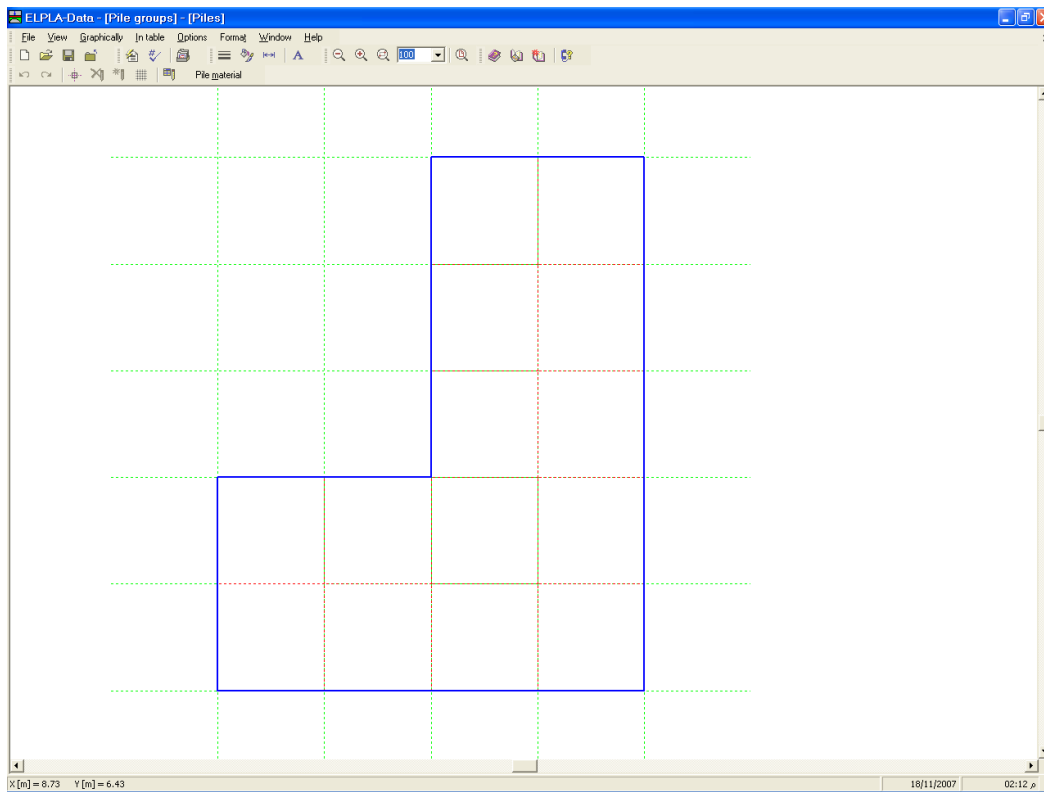
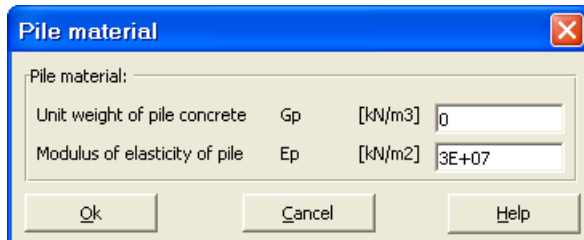

Figure 11-16 "Piles" embedded program
Figure 11-18 "Defining element groups" dialog box
To define piles, choose "Piles" command from "Data" menu of *ELPLA-Data*. The following embedded program in Figure 11-16 appears.
To define pile groups those have the same diameter and length, choose "Pile groups" command from "In Table" menu in Figure 11-16. When the "Pile groups" command is chosen, the following table in Figure 11-17 appears allowing you to define the pile diameter and length.
To define pile material, choose "Pile material" command from "In Table" menu in Figure 11-16. When the "Pile material" command is chosen, the following dialog box in Figure 11-18 appears allowing you to define the pile material. Type 0 in the "Unit weight of the pile concrete" edit box to neglect the pile weight.
- Choose "Select nodes" command from "Graphically" menu in Figure 11-16